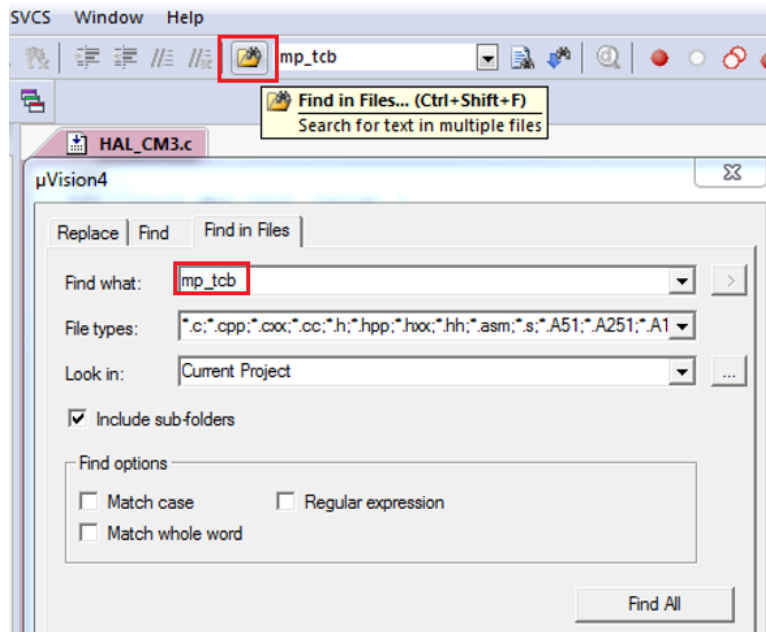

Figure 1.28: Keil IDE: Search
- (2 points) What is the purpose of variables `mp_tcb` and `mp_stk`?You may want to search the entire source code to further explore how these variables are set and used (see Figure 1.28).